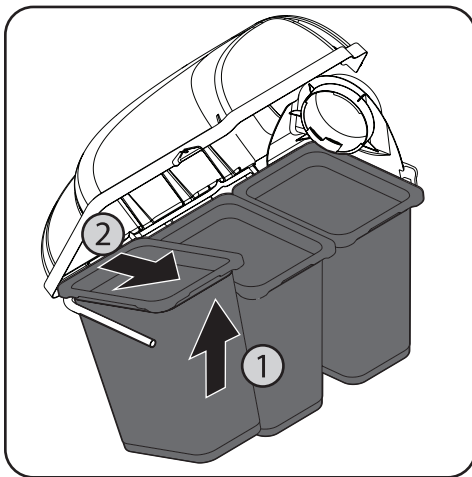

Figure 5-2
3. Remove the three bag assemblies from the bag support brackets by lifting the front edge up first, and then sliding the back edge forward and up until it is clear of the frame as shown in Figure 5-2.